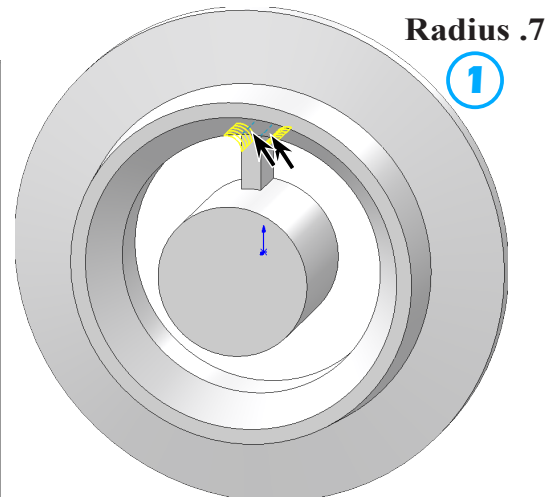

Fig. 23
- ① **Radius**  **.7**
click **inside top edges of spoke (2)**, Fig. 23